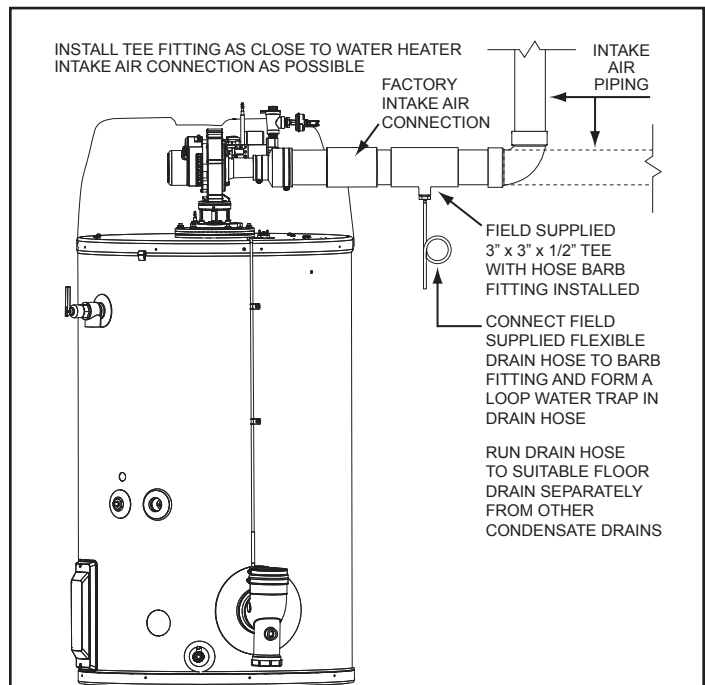

Figure 20. Intake Air Condensate Tee Installation
9. A field supplied condensate Tee fitting and drain hose shall be installed in the intake air piping near the water heater in colder climates with heavy snow accumulations and in areas that regularly experience high humidity. The drain hose should be routed to an adequate floor drain separate from any other condensate drains. See **Figure 20** (page 25).
Installations with any of these conditions are required to provide a moisture drain with a trap that flows to a waste drain. See **Figure 20**. A horizontal section of the air inlet pipe, near the heater should include a 3" x 3" x 1/2" tee and a hose barb fitting to drain the water. The tee should be as close to the heater as is practical. The drain tubing in any installation should have a loop trap and flow to an appropriate waste drain. The air intake drain line must be entirely separate from the exhaust vent outlet condensate line.